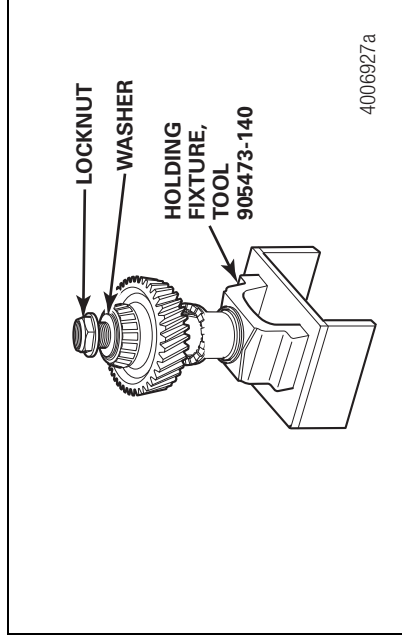

Figure 6.5
11. Install the washer and the locknut onto the shaft. Tighten the locknut to 700-900 lb-ft (949-1220 N•m). Figure 6.5. ⚡